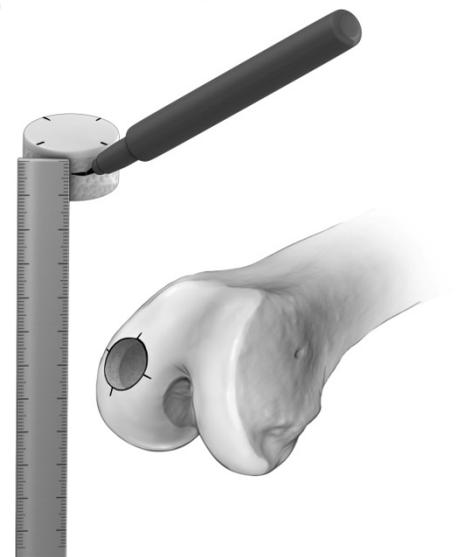

Fig. 4c
**Step 13:** Using the depth locations of the defect hole, mark the depth of the plug at the 12, 3, 6, and 9 o'clock positions. Connect these depth markers to form a circumferential mark at the proper plug depth (Fig. 4c). Prior to proceeding, re-verify these depth measurements.